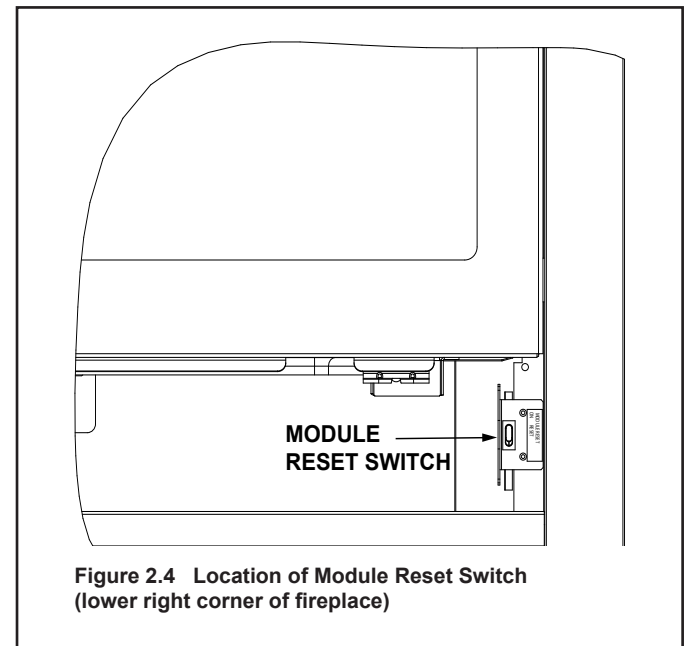

Figure 2.4 Location of Module Reset Switch (lower right corner of fireplace)
- Locate the module reset switch. (See Figure 2.4).
- Wait five (5) minutes to allow possible accumulated gas to clear.